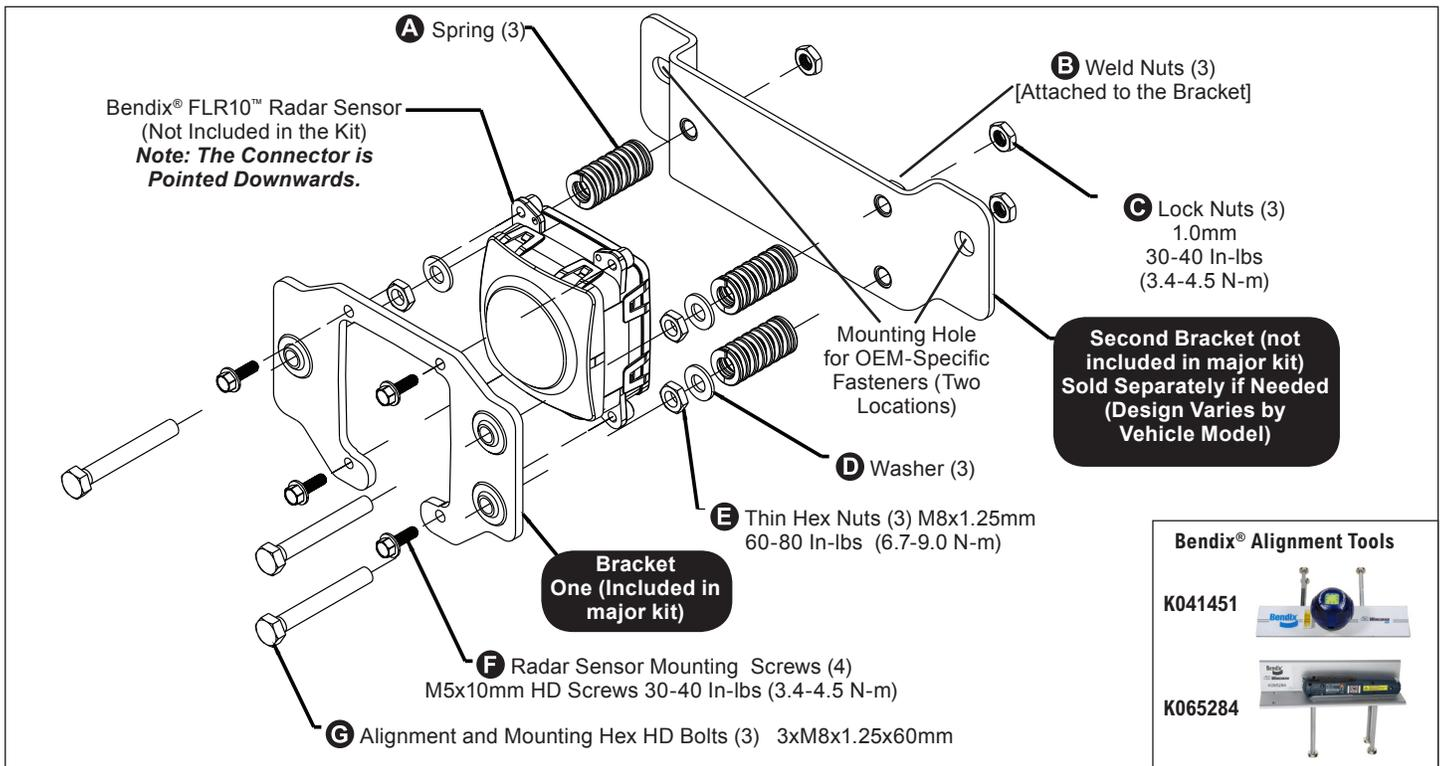
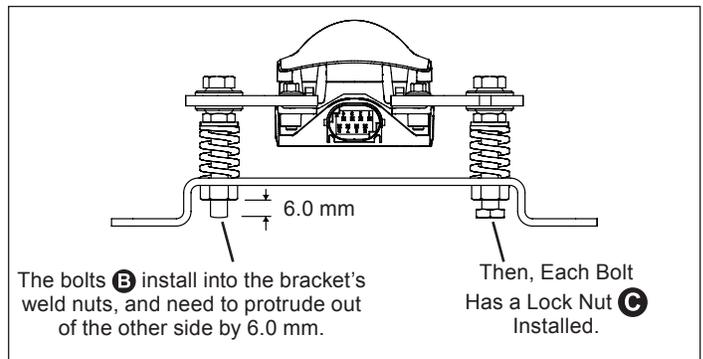
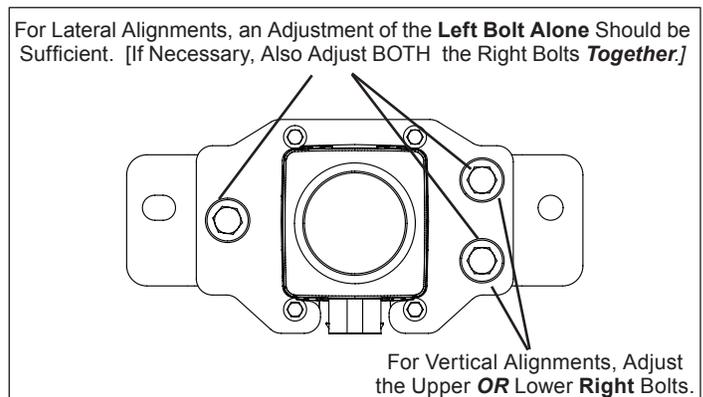

FIGURE 1 - EXPLODED VIEW OF KIT COMPONENTS
FIGURE 2 - BOLT INITIAL INSTALLATION
FIGURE 3 - ALIGNMENT ADJUSTMENT
Use the Assembly Torques shown in Figure 1.
1. Using the four Radar Sensor Mounting Screws **F**, install the radar sensor onto Bracket One. See Figure 1.
3. Install a washer **D** and spring **A** onto each Alignment Bolt. Install onto the OEM bracket so that the thread extends through each of the weld nuts **B** 6 mm. See Figure 2. The three Lock Nuts **C** are then installed onto the end of the Alignment bolts **G**. The Lock Nuts are designed to only engage a few threads and then they will lock in place.
4. Install the combined Bracket assembly onto the vehicle using the two (2) OEM-specific fasteners retained in Step 1. Follow the vehicle manufacturer's torque.
6. See Figure 1 for Bendix alignment tools. Align the radar laterally first; then vertically, using the Alignment Adjustment bolts **G**. See Figure 3.